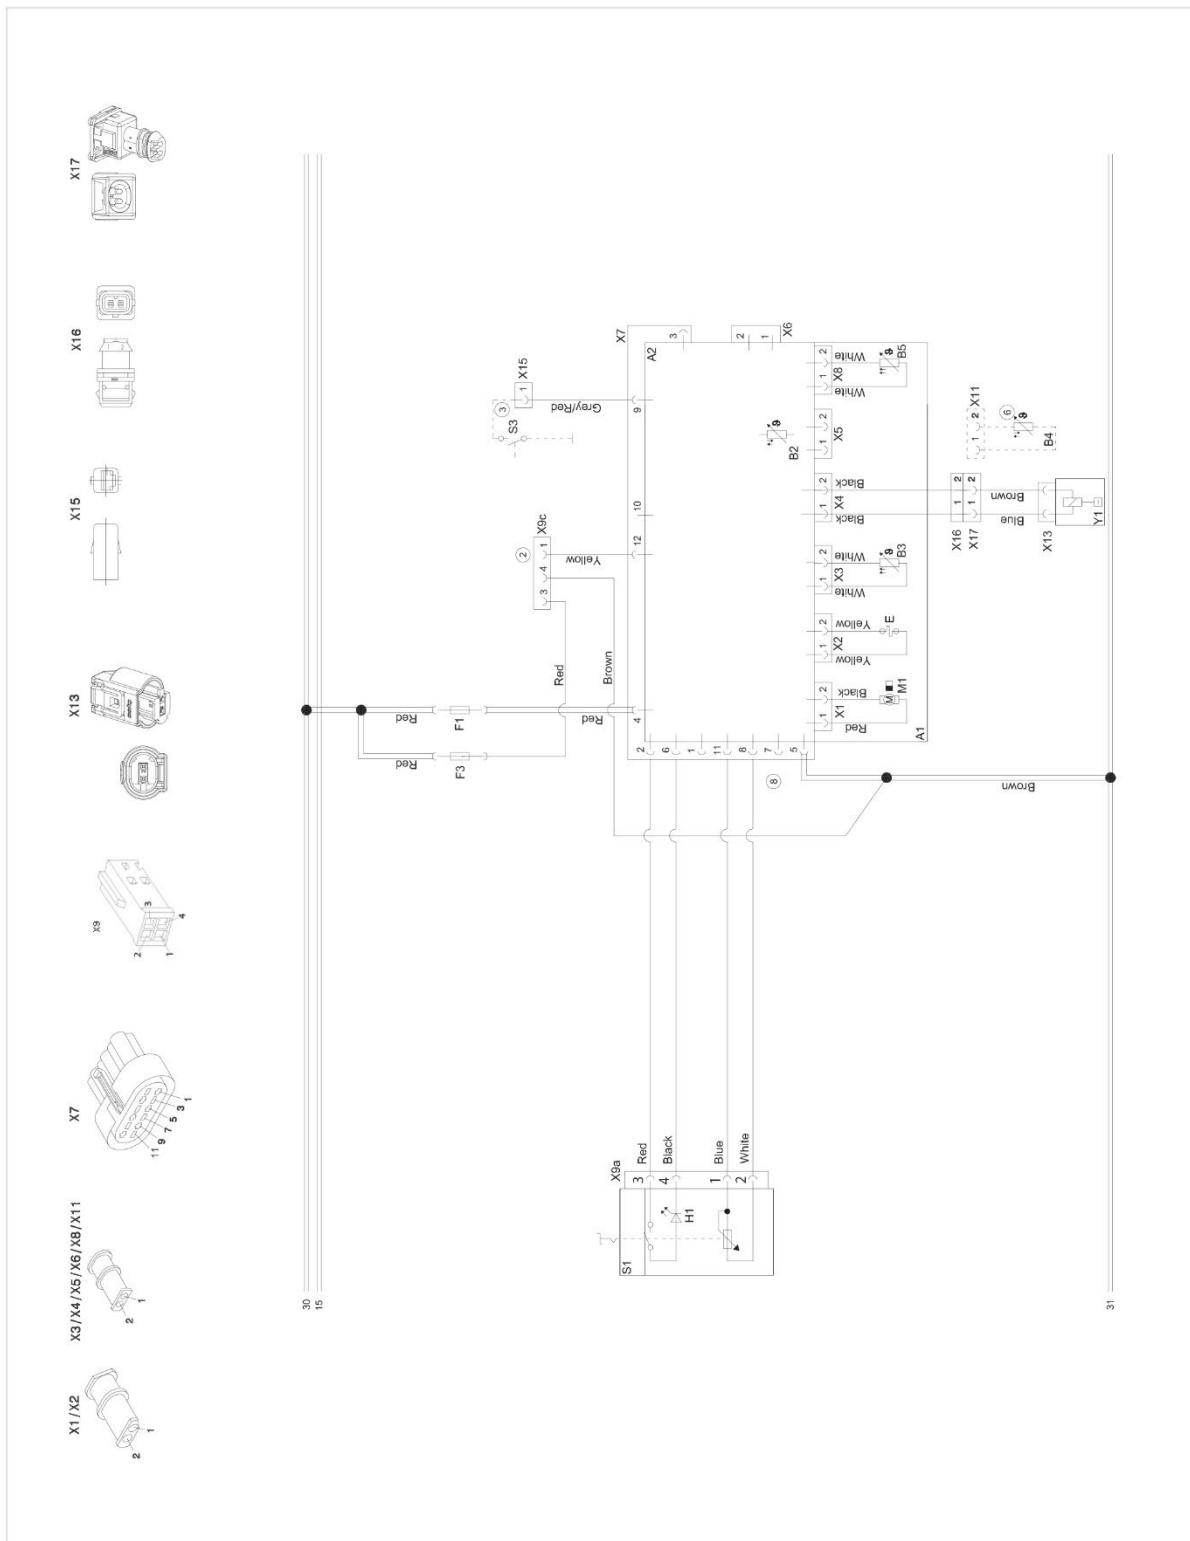
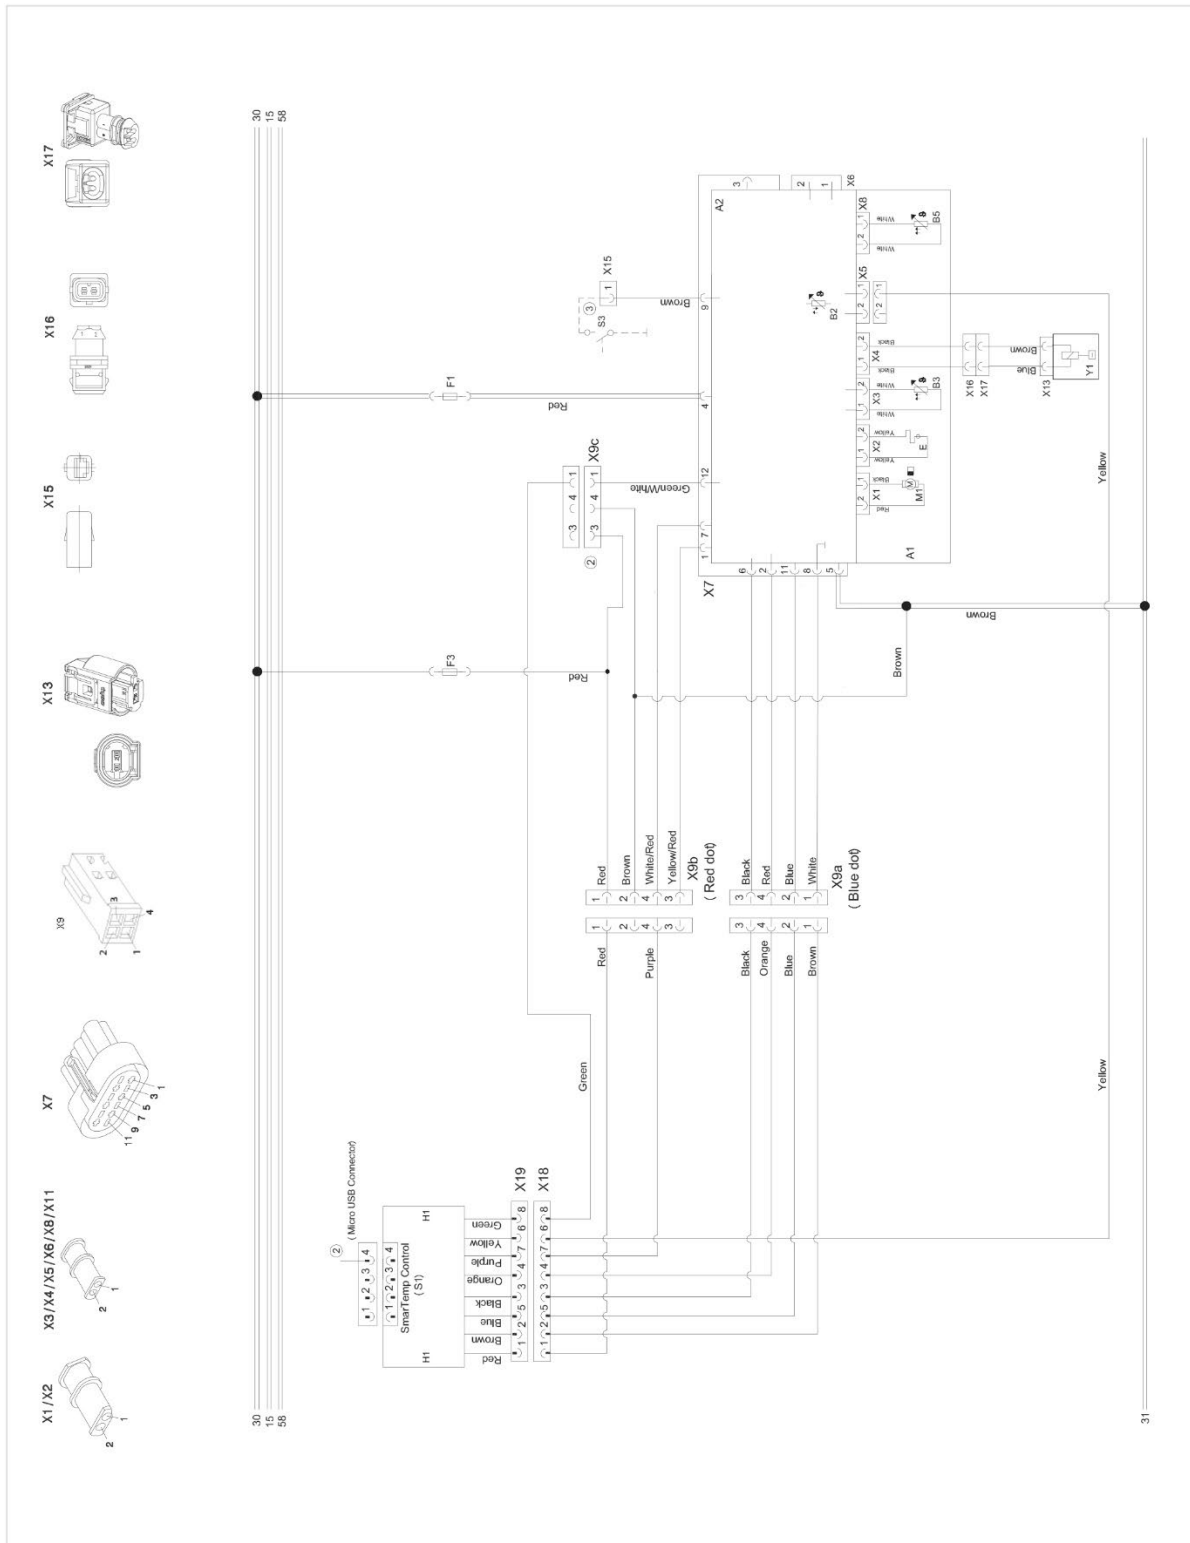

Figure 15: Wiring Diagram for Air Top Evo 40 / 55, 12V / 24V with rheostat
Figure 17: Wiring diagram for Air Top Evo 40 / 55, 12V / 24V with SmarTemp Control 2.0
The Air Top Evo 40 / Air Top Evo 55 heaters can be operated with the rheostat, Smartemp or the Air Top Evo Multi Control (MC04) control element. The wiring diagrams (Figure 15 to Figure 17) show the possible circuits for 12V or 24V.
- Rheostat (Figure 15)
- Smartemp (Figure 17)